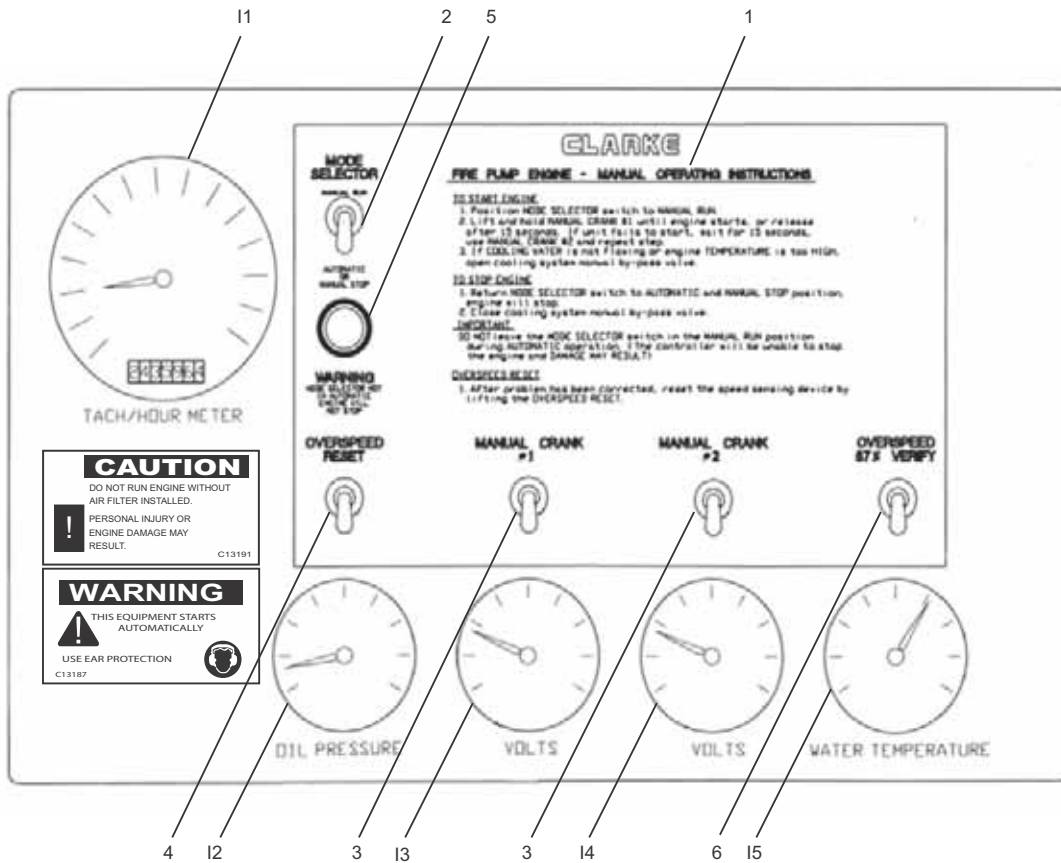
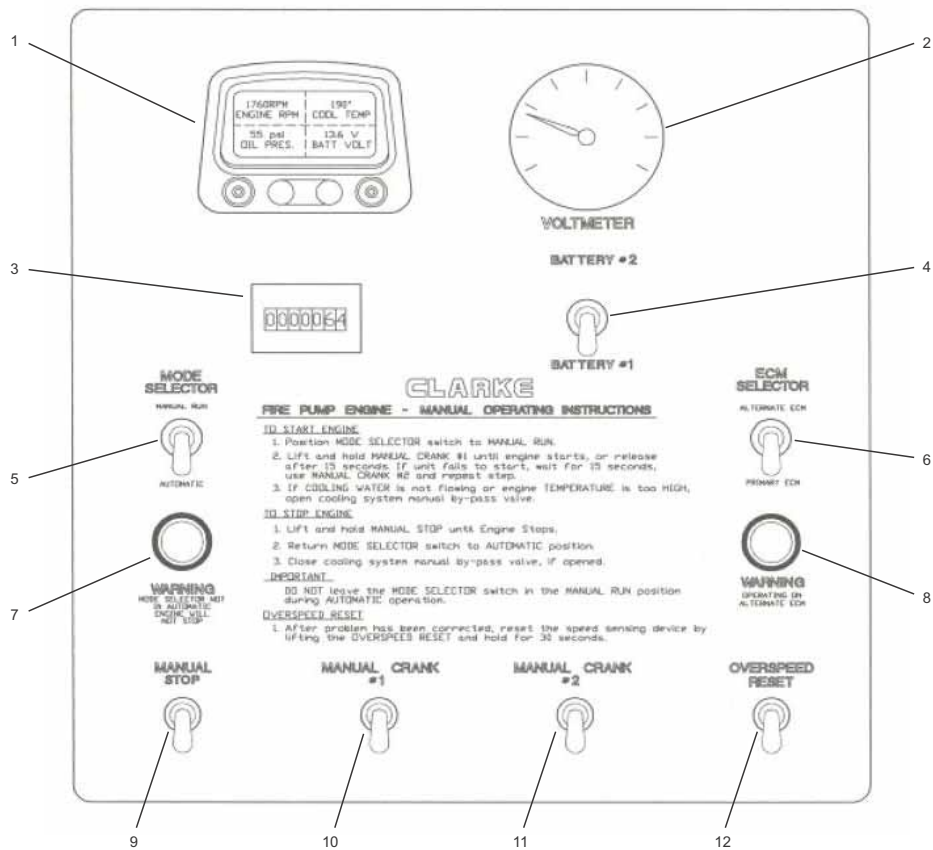

Fig. 5 Control panel of JU/JW diesel engine
Fig. 6 Control panel of JX diesel engine
The design of the control panel is shown in fig. 5 for JU/JW engines, and in fig. 6 for JW engines. An explanation of the operating elements and the indicators is given in the table below fig. 5 and 6. How to start the engine via the control panel is described in section 12.2.2 *Manual operation via control panel of diesel engine*.
During normal operation of the diesel engine, the display will show engine speed, temperature of cooling liquid, oil pressure and voltage of battery 1 or 2 selected with the battery selector switch (fig. 6, pos. 4).